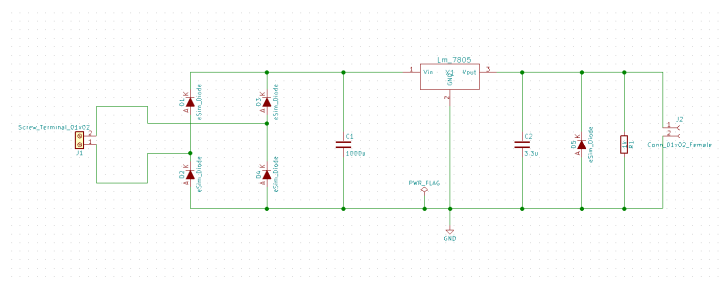

Figure 13.2: Schematic after adding connectors and removing the probes and sources.
- Modify the circuit schematic as shown in Fig. 13.2. The two pin female connector (`Conn_01x02_Female`) is placed for the taking the 5V output supply meanwhile a 2